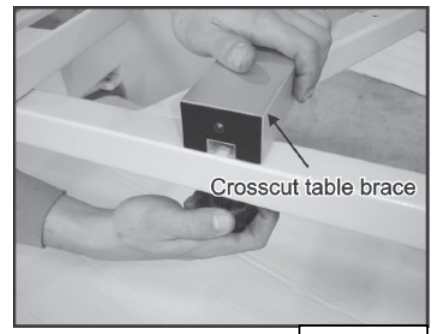

Fig. 17
4. Align the T-nuts in the crosscut table supporter with the holes in the crosscut table and thread the M8-1.25 x 50 knobs, with 8mm flat washers, into the T-nuts (Fig. 17)